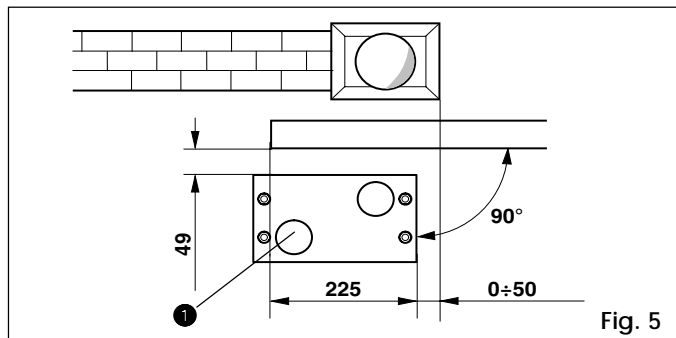
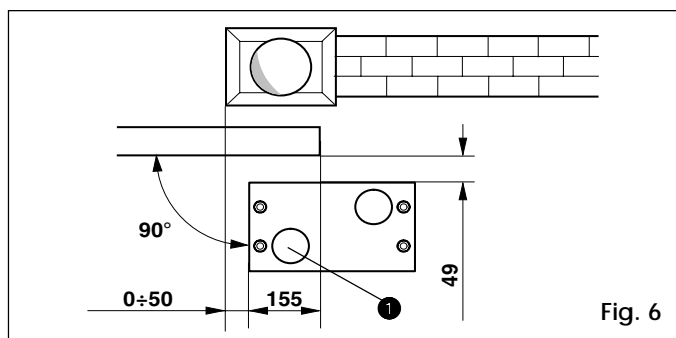

Fig. 5
Fig. 6
- 2) The base plate must be positioned as shown in Fig. 5 (right-handed closure) or Fig. 6 (left-handed closure) to ensure that the pinion and rack mesh correctly.